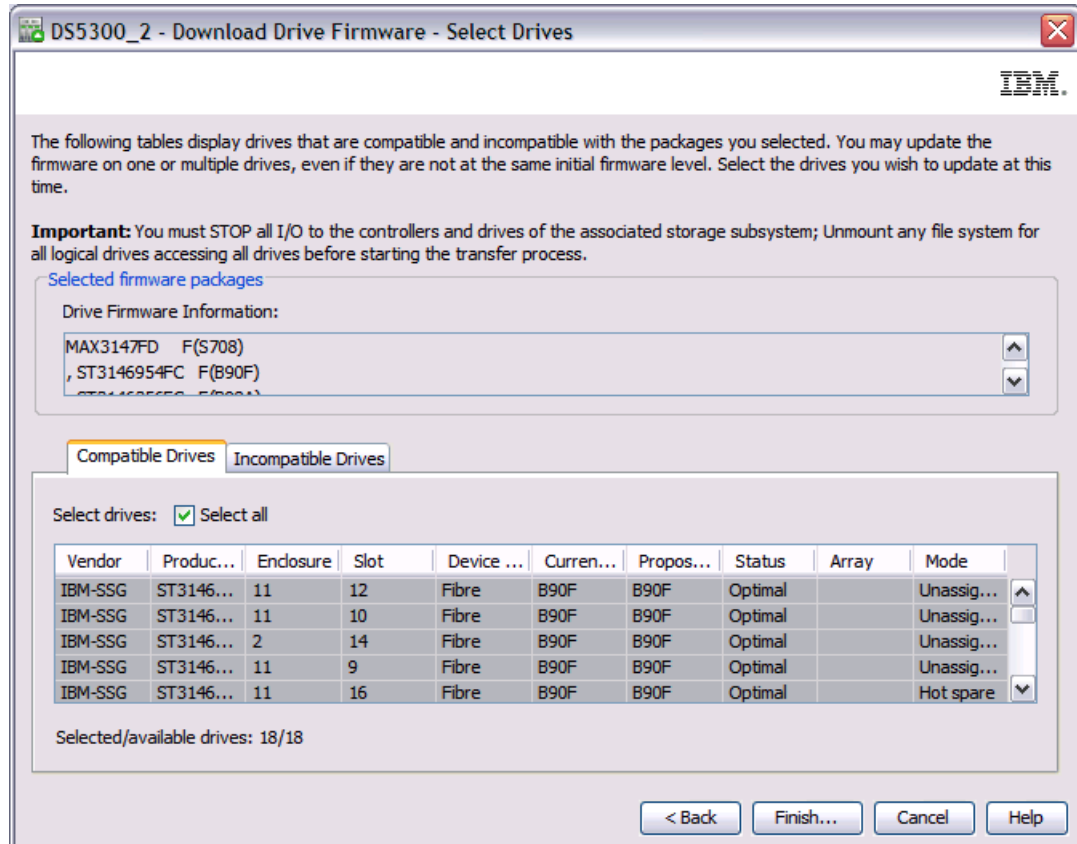

Figure 5-26 Selecting drives to upgrade
6. If you click **Next >**, a new window opens showing all the drives with the current and proposed firmware. We had one type of drive that did not require an upgrade, because the firmware was on the same level, as shown in Figure 5-26. Select the drives you want to upgrade by checking **Select all** box and click **Finish...** Confirm your selections by typing **yes** and click **OK** on warning pop-up window in order to continue with the firmware download or **Cancel** to quit.